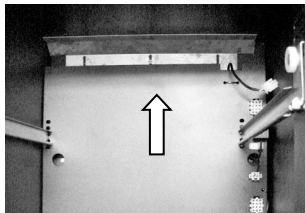

Figure 12: Turning Vane
7. Remove one of two existing Turning Vanes (see Fig.12) located in center opening